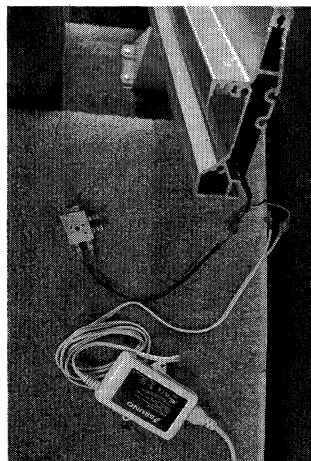

Fig. 15
- Connect charge harness to charge contact and charger [Fig. 15].